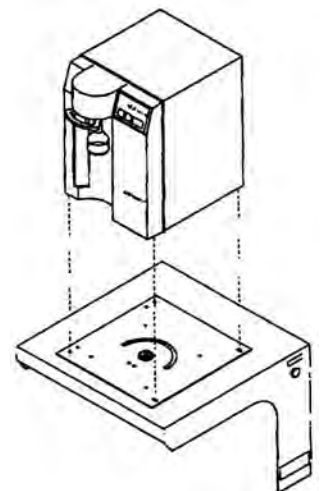

Figure 5-9. Swivel Base Orientation
2. Place the EASYpure RODI on the wall bracket swivel base so the screw holes where the feet were attached line up with the holes in the wall bracket. There are guides on the wall bracket that will mate with the EASYpure RODI. See Figure 5-9.